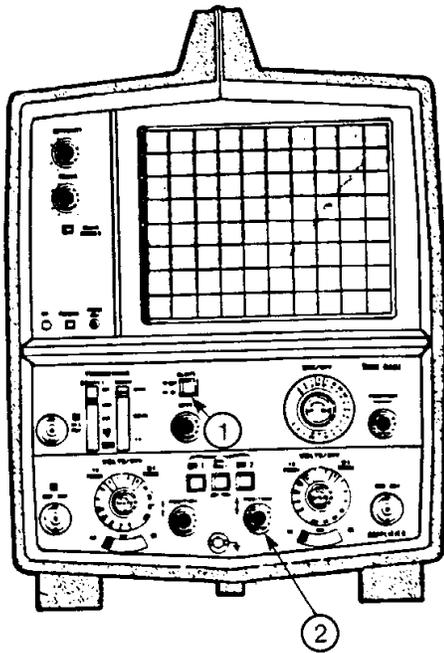
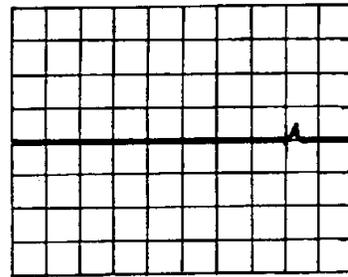

FIGURE 6
FIGURE 8
POS/NEG: "POS" (Figure 6, #1)
8. Turn the vertical position dial to center the pulse if necessary. (Figure 6, #2). If the scope reading is 0 volts (the pulse remains on the center line — Figure 8), go to step 9. If the reading is not 0 volts, **DON'T CONTINUE WITH TEST!**